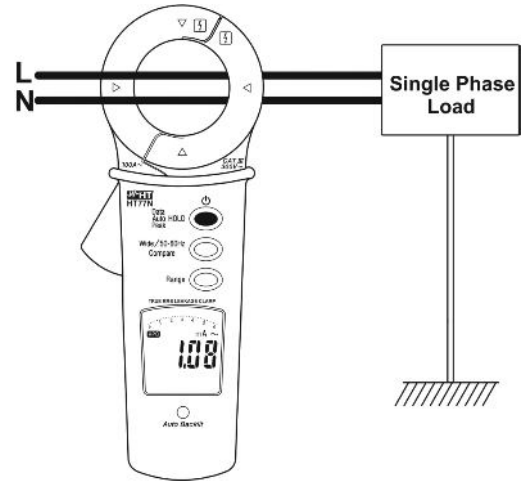
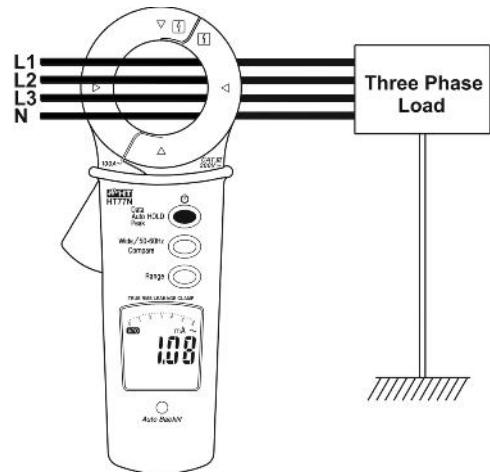

Fig. 5: Measuring leakage current with indirect method in a single phase load
Fig. 7: Measuring leakage current with indirect method in a three phase load
3. Open the clamp jaw and connect the clamp as shown in Fig. 5 or Fig. 7. The leakage current value will be shown on the display